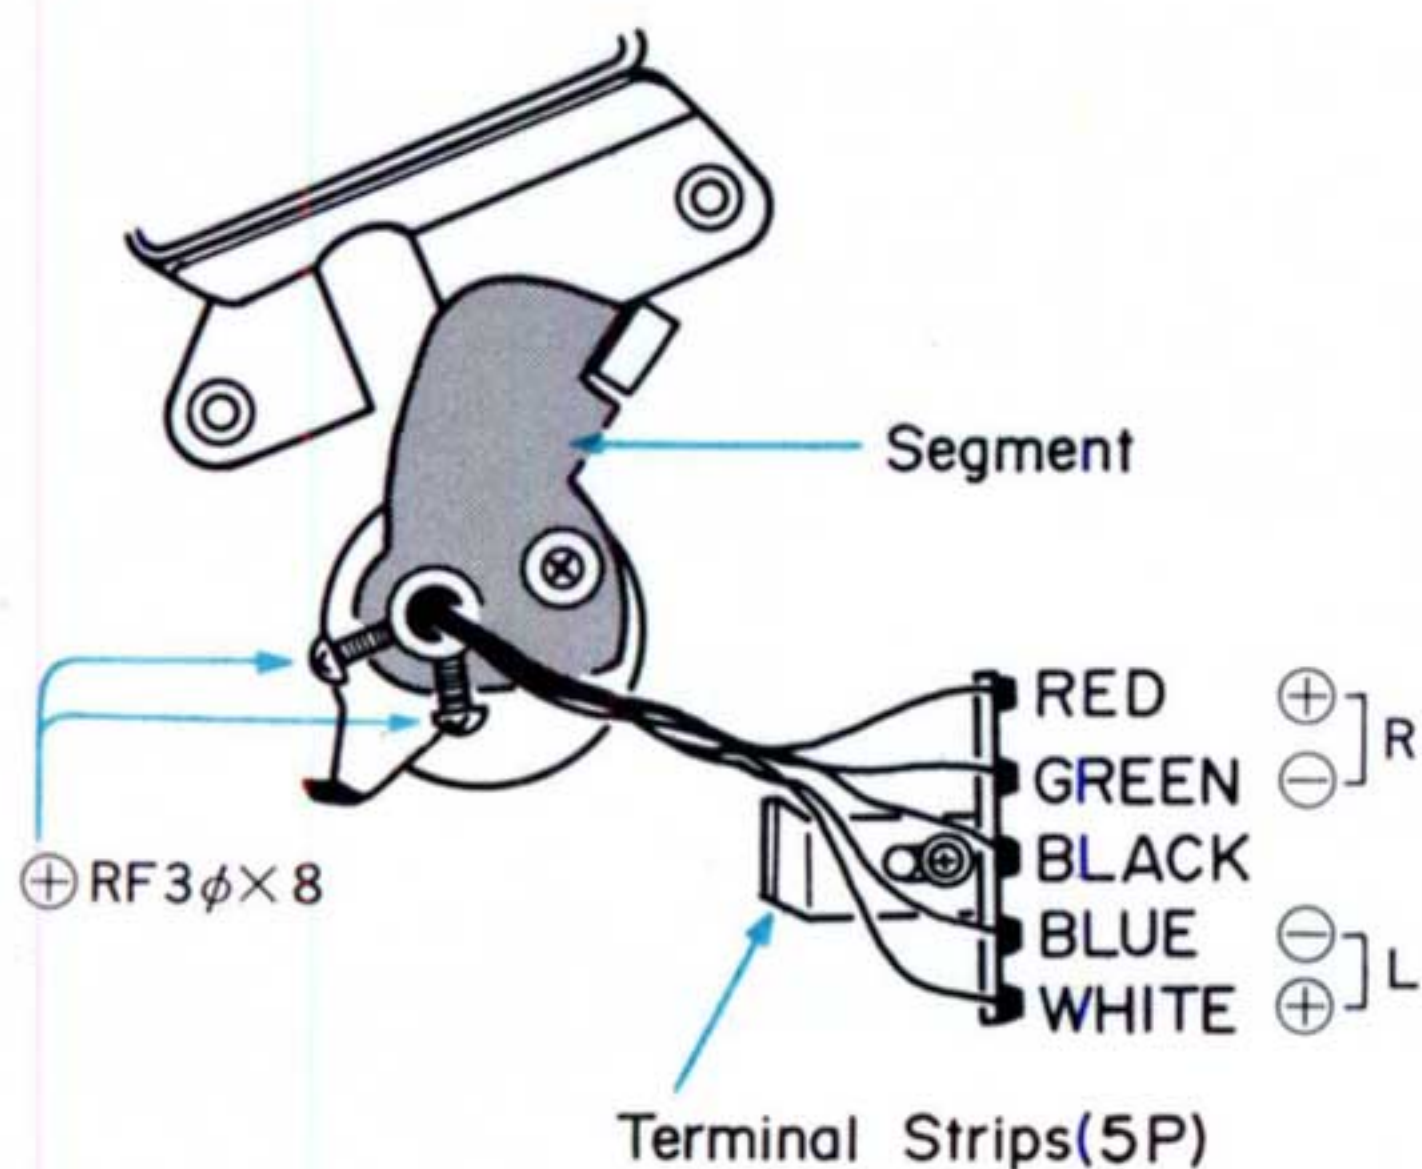

Fig. 2-10 Tone Arm Wiring
2. Unsolder the five wires coming out of the tone arm shaft from the 5-p terminal board to which they are connected. Take note of the color of the wire connected to each terminal. See Fig. 2-10.